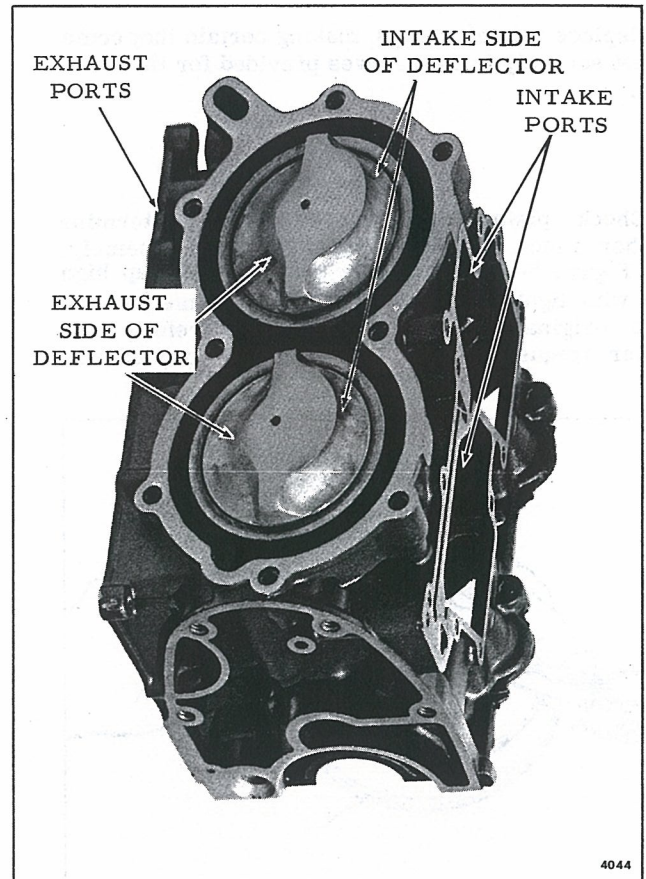

Figure 5-26. Correct Piston Position
a. The relative positions of pistons and connecting rods must be considered in this assembly. Pistons must be installed in cylinders with straight side of deflector toward intake port; oil hole in connecting rod must be toward top of motor. See Figure 5-26 and 5-27.
Coat pistons and cylinder bores with oil and install piston/rod assemblies, being sure to match each assembly with the cylinder it was removed from. The intake side of the piston deflector must be placed toward the intake side of cylinder. See Figure 5-26 and 5-27. The piston rings must be compressed before the piston can be replaced in the cylinder. Make certain that the rings are correctly positioned in their grooves with respect to the dowel pins. Damaged pistons and broken piston rings may result from imperfect alignment of the ring gap and the piston dowel pin.